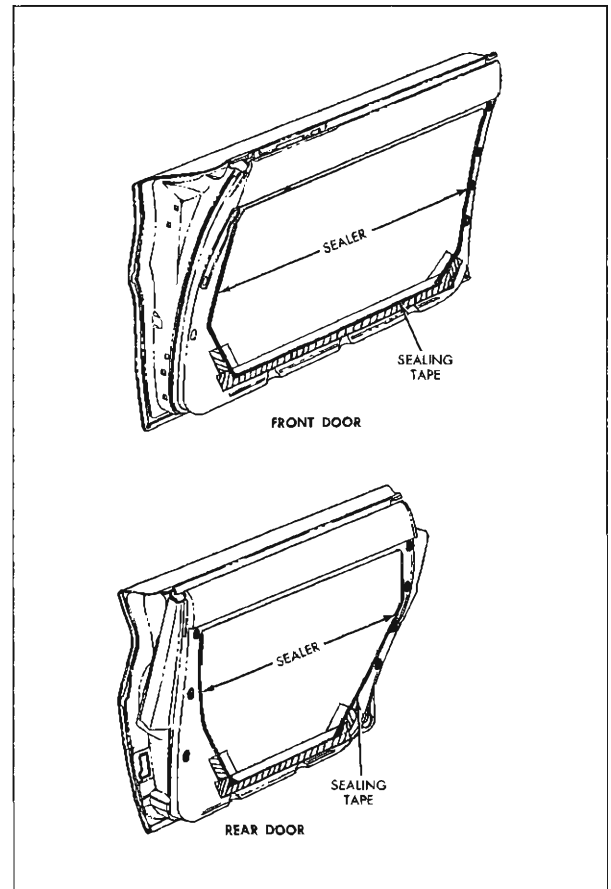

Fig. 12-4 Water Deflector Installation
2. Remove strips of waterproof body tape securing lower corners of water deflector (Fig. 12-4).
If old sealer does not effect a satisfactory seal, apply a bead of body caulking compound (approximately  $\frac{3}{16}$ " diameter) to inner panel at unsealed areas (Fig. 12-4).
4. Seal lower corners of deflector with 2" or 2½" waterproof body sealing tape (Fig. 12-4).